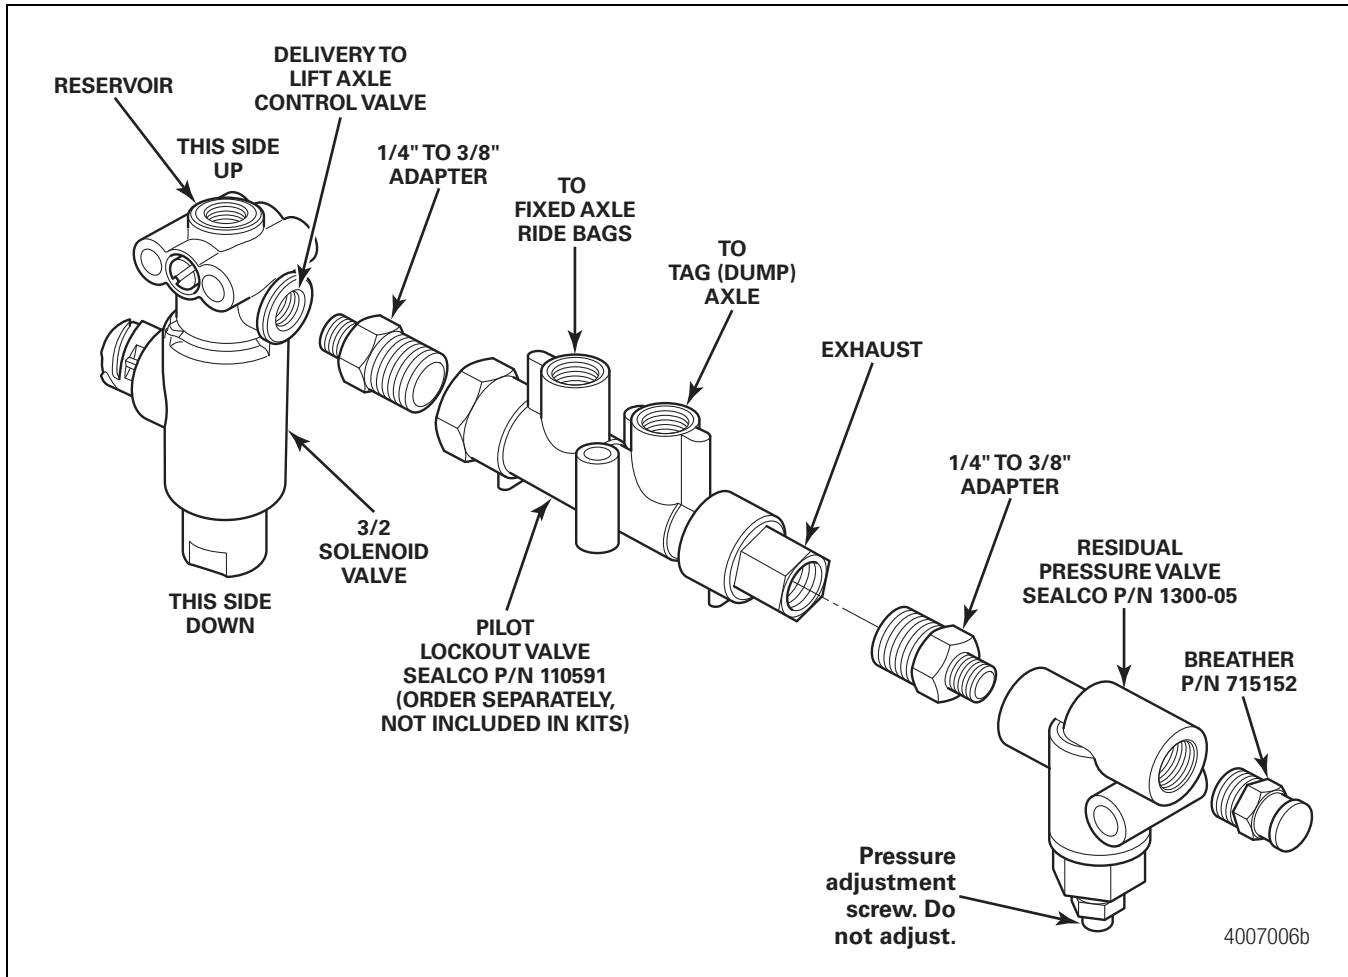

Figure 5
- Ensure that the solenoid valve is installed correctly. Figure 5.
Ensure the thread sealant does not enter inside any of the ports as it could damage the solenoid valve and affect system performance. Figure 5. Damage to components and serious personal injury can result.
- Apply a thread sealant and install the 1/4-inch to 3/8-inch adapter fitting from the solenoid valve to the pilot lockout valve, SEALCO part number 110591. Figure 5.
- Optional: Install the residual pressure valve (SEALCO part number 1300-05) to prevent air bag damage. This will allow 5 psi (0.34 bar) of air to remain in the air bags of the tag axle. Figure 5.